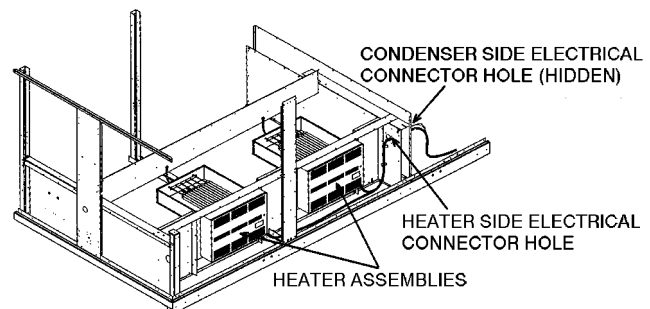

Fig. 3 — Heat Section With Heater Assemblies Inserted
4. Place one heater assembly into each opening and push until the heater assembly makes contact with the electric heat vestibule plate (Fig. 3).
6. There is a square plate with a plug button located in the bulkhead between the condenser and heater sections (Fig. 3). Remove the square plate from the bulkhead. Save screws. Remove the plug button and place one 1-1/4-in. connector (field supplied) into each hole of the square plate, one on the condenser side and one on the heater side.